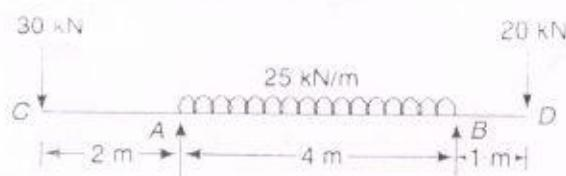

Fig. 5
- Q.4. B A simply supported beam of 7-m span with overhangs rests on supports as shown in Fig. 5. **Draw** the shear force and bending moment diagrams.